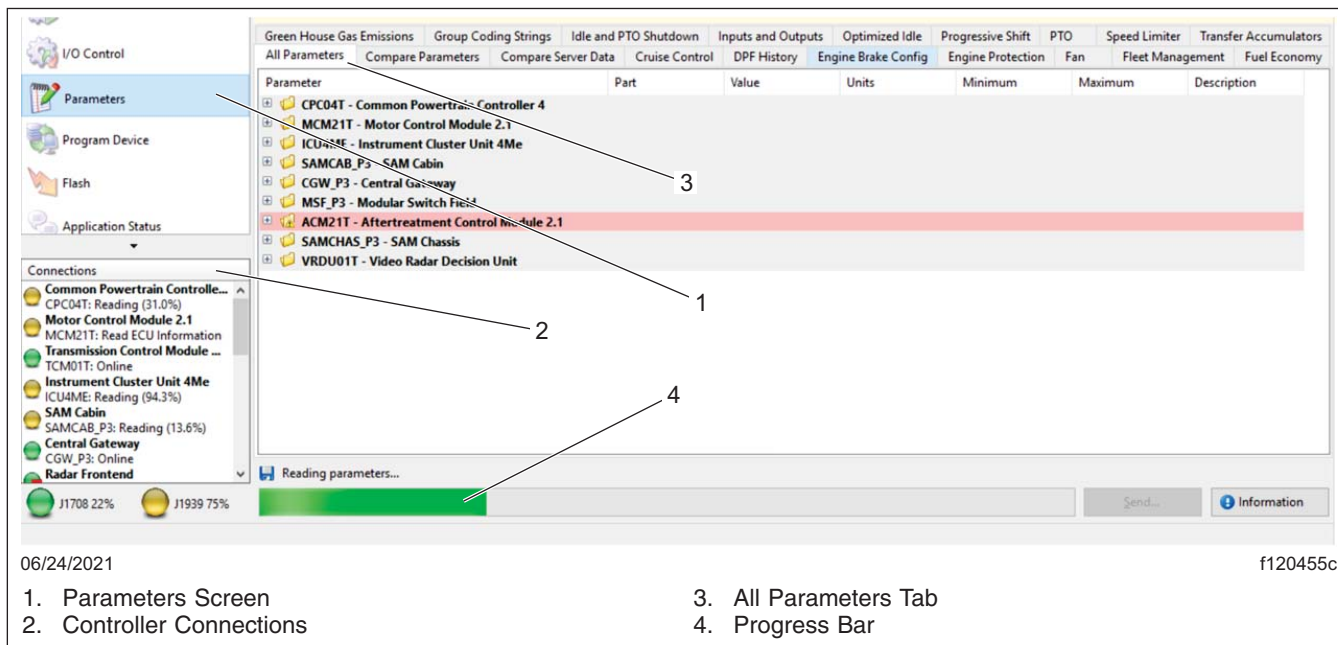

Fig. 12, Server Reading Parameters
9. Select 'Parameters,' as shown in **Fig. 12**, item 1.
Once all controllers are connected, as shown in **Fig. 12**, item 2, select the 'All Parameters' tab, shown in **Fig. 12**, item 3, to read the vehicle parameters.
A green progress bar appears at the bottom of the screen. See **Fig. 12**, item 4.